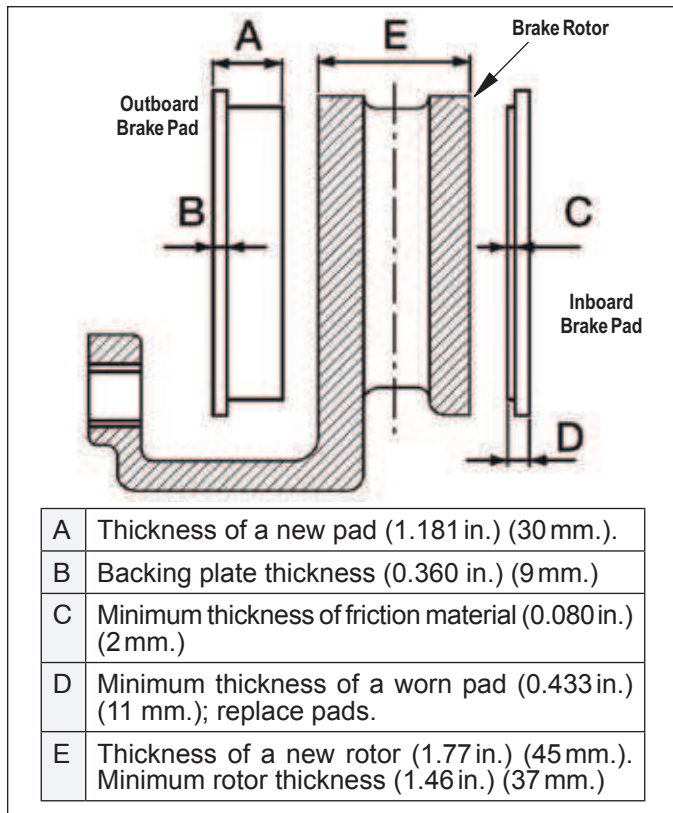

FIGURE 22 - PAD AND ROTOR DIMENSIONS
See *Figure 22* for initial brake pad and rotor dimensions, as well as minimum acceptable dimensions.
4.3.1 See *Figure 22*. If the thickness of the friction material — dimension “C” — is less than 0.080 in. (2 mm.), the pads must be replaced.
4.4.1 Measure the thickness of the brake rotor at the thinnest point (Dimension “E” in Figure 22). Avoid measuring near the edge of the rotor as minor burrs may result in inaccurate measurement. **For Bendix® brand rotors, replace the rotor when the minimum thickness of 1.46 in. (37 mm.) is reached.** For other brands of rotors, refer to the rotor manufacturer’s guidelines.